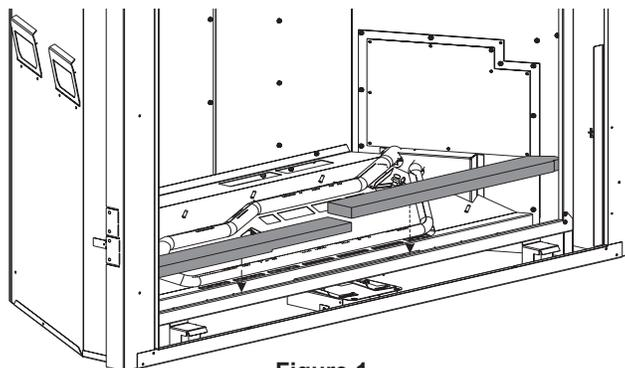

Figure 1
2. Place the RIGHT and LEFT FRONT LINER as shown in Figure 1.